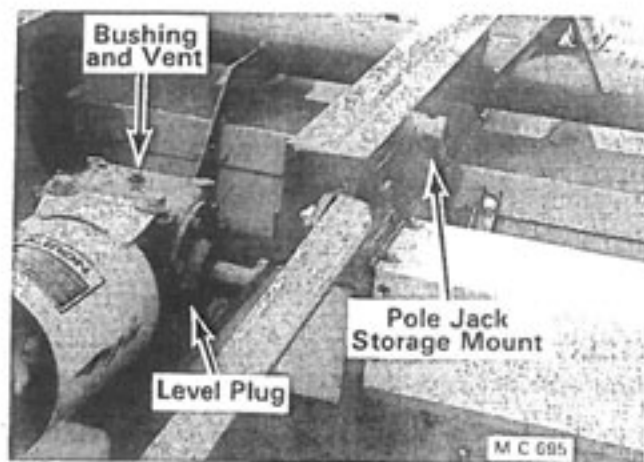

Figure 25
On Shredders without the optional end tow system, store it on the jack mount located on the left side of the body by the gear box. see Figure 25.
1. Periodically check the oil level in the gear box. Remove the oil level plug on the left side of the gear box, see Figure 25.